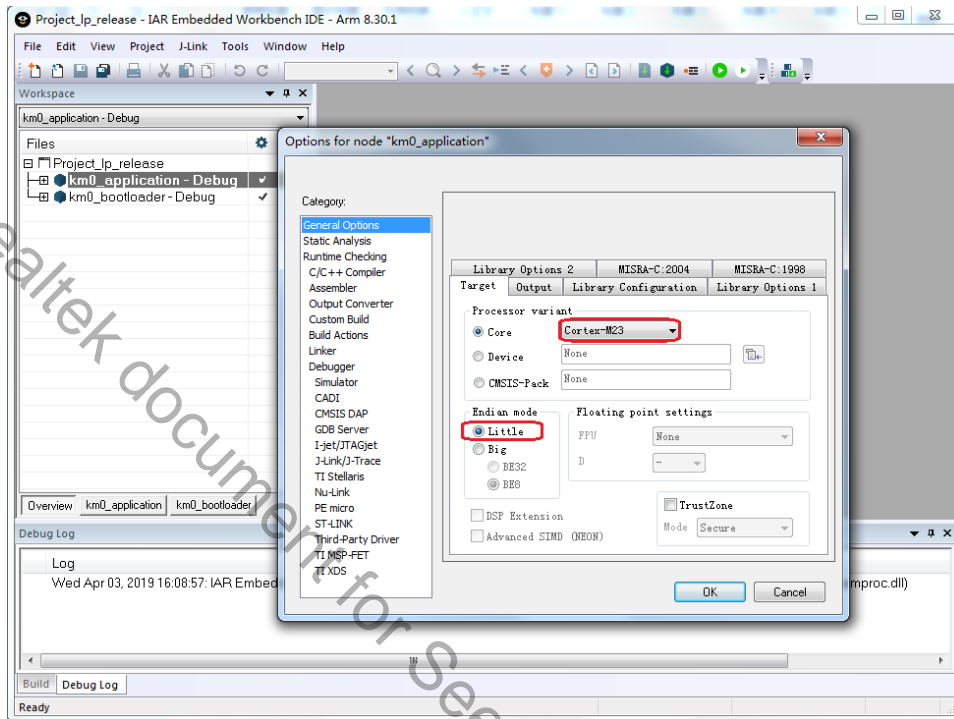

Fig 6-7 KM0 processor options
- (1) Open `project\realtek_amebaD_va0_example\EWARM-RELEASE\Project_lp_release.eww`.
- (2) Make sure km0_bootloader and km0_application are in Workspace. Click **Project > Options, General Options > Target > Processor Variant > Core**, verify the CPU configurations according to Fig 6-7.